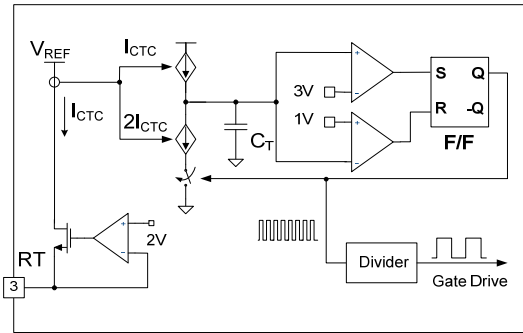

Figure 19. Current-Controlled Oscillator
2. Internal Oscillator: FSFR-HS series employs a current-controlled oscillator, as shown in Figure 19. Internally, the voltage of the RT pin is regulated at 2 V and the charging / discharging current for the oscillator capacitor, C_T , is obtained by copying the current flowing out of the RT pin (I_{CTC}) using a current mirror. Therefore, the switching frequency increases as I_{CTC} increases.